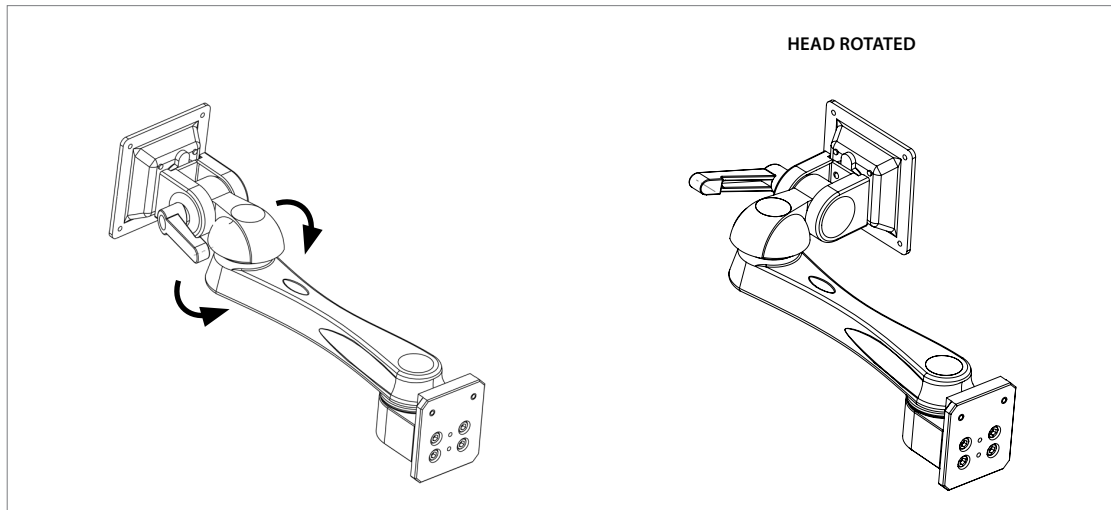

Figure 1
1. The monitor rotates at the front of the *ARM*. To rotate the monitor, push the corners of the device or the head while holding the *SSM ARM*. If the *SSM ARM* is not held in place the *MONITOR HEAD* will rotate with the *ARM* (Figure 1).